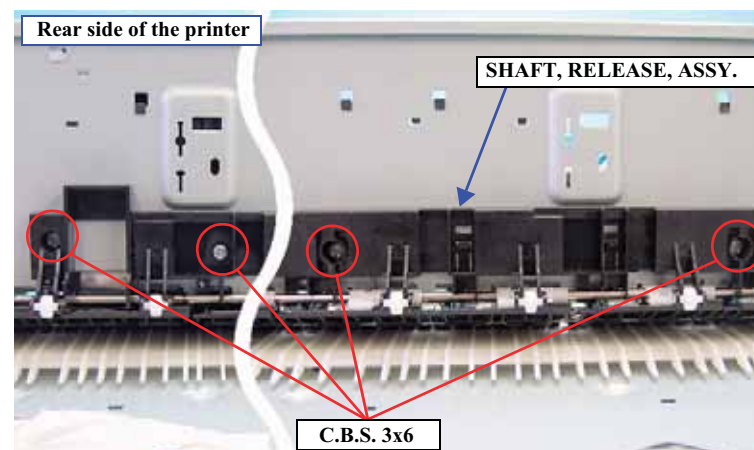

Figure 4-133. Removing the screws from the SHAFT, RELEASE, ASSY.
4. Remove the four screws that secure the SHAFT, RELEASE, ASSY. *See Figure 4-133.*